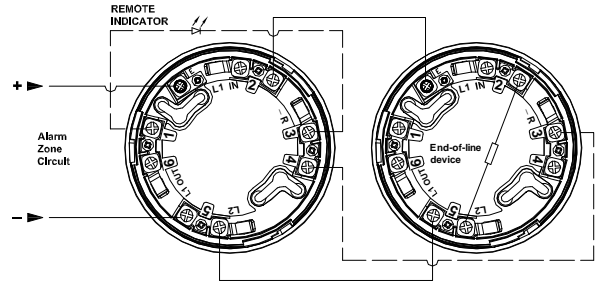

Fig. 1: Base wiring connections
- a. See Fig. 1 for detectors using 2-wire bases.